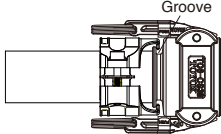

Figure 1
- Provisionally assemble the clamp in line with the grooves on the nipple. Adjust the triangle marking of the rubber cap to be positioned in the center of the gap. (Figure 1)